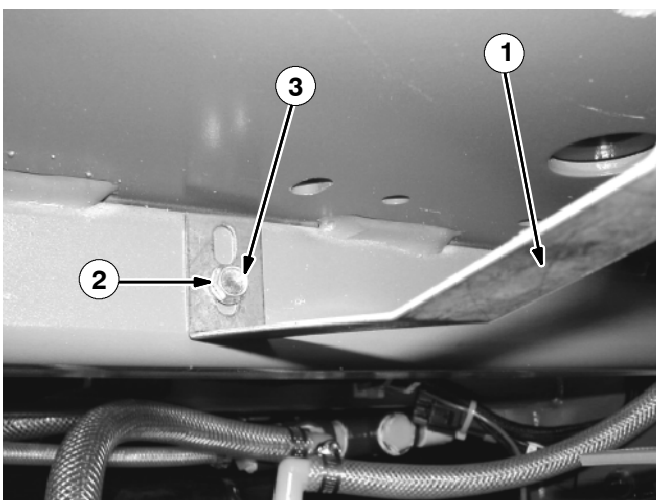

FIG. 5
2. Install the bracket (1) with M6, 16 mm hex screw (2) and washer (3). (Refer to FIG. 5)